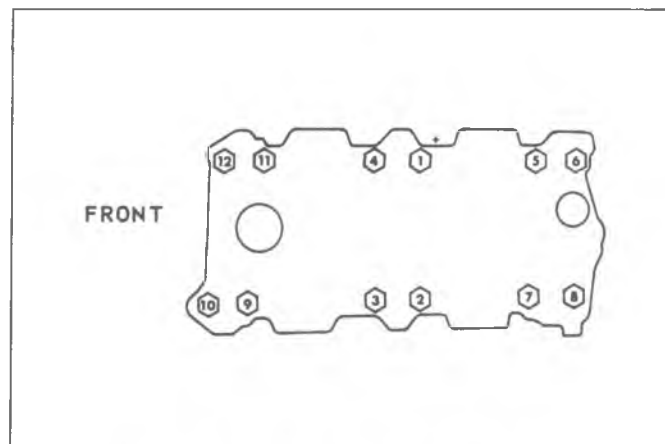

Fig. 1V—Inlet Manifold Attaching Bolts
21. Remove the two forward center inlet manifold bolts (numbers 3 and 4) (fig. 1V).